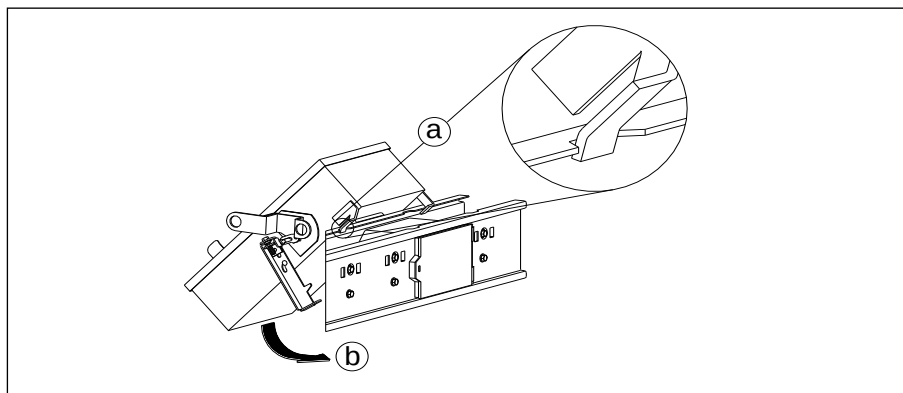

Figure 3: Mounting the plug-in unit
4. Tilt the top of the plug-in unit forward to position the locating hook (above the handle) into the busway slot at the top right of the plug-in opening (Figure 3,a). Engage the left side hook over the entire duct top flange. Swing the plug-in unit into the housing so the plug-in jaws engage with the busway (Figure 3,b).